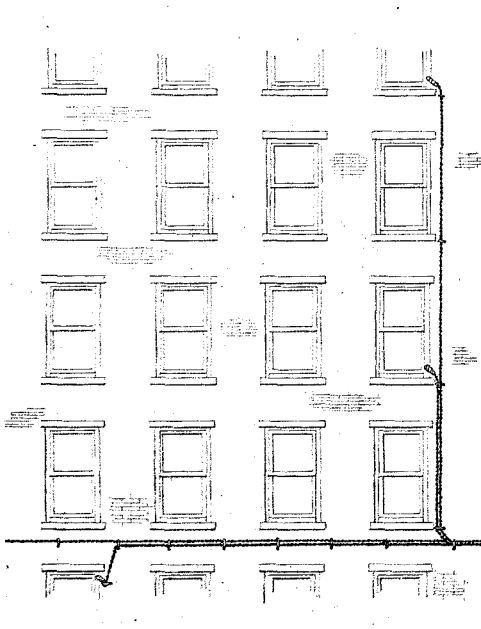

Fig. 11 — Drive Ring Run
16.01 Typical building runs are shown in Fig. 11 through 14.